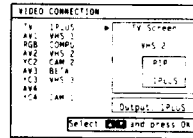

Fig. 41.
- 1 Select Video Connection with  $\triangleleft$  or  $\triangleright$  and press OK. The VIDEO CONNECTION menu appears. (See Fig. 41)